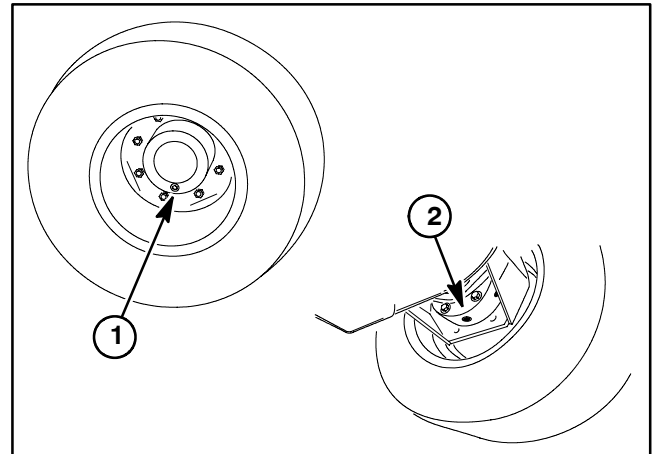

Figure 8
2. Drain oil from planetary wheel drive/brake assembly (Fig. 8).
6. Make sure drain plugs are installed in brake and planetary drive assemblies (Fig. 8).